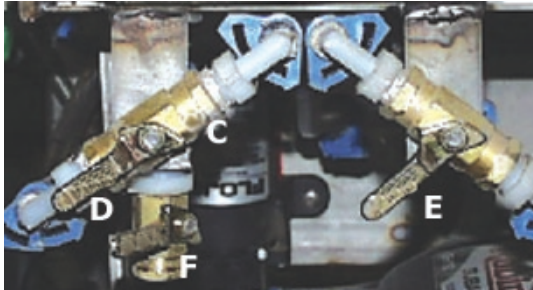
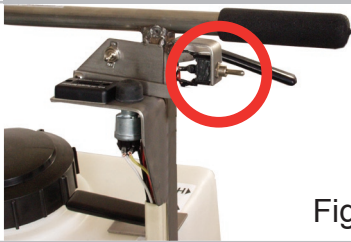

Fig. 7-2
Fig. 7-3
- 1 Fill tank with water. To spray up to 9 feet wide while in 6th (High) gear, point the handles of the spray control valves (See Fig.7-2) away from each other. Pull the spray switch toggle switch (See Fig.7-3) toward the hand grip to momentarily spray or push the toggle forward to spray continuously. Both brown nozzles with purple caps should be spraying.
- 2 To spray up to 9 ft wide while in 4th (Low) gear, point the handle of the spray control valves (See Fig.7-2) towards each other.